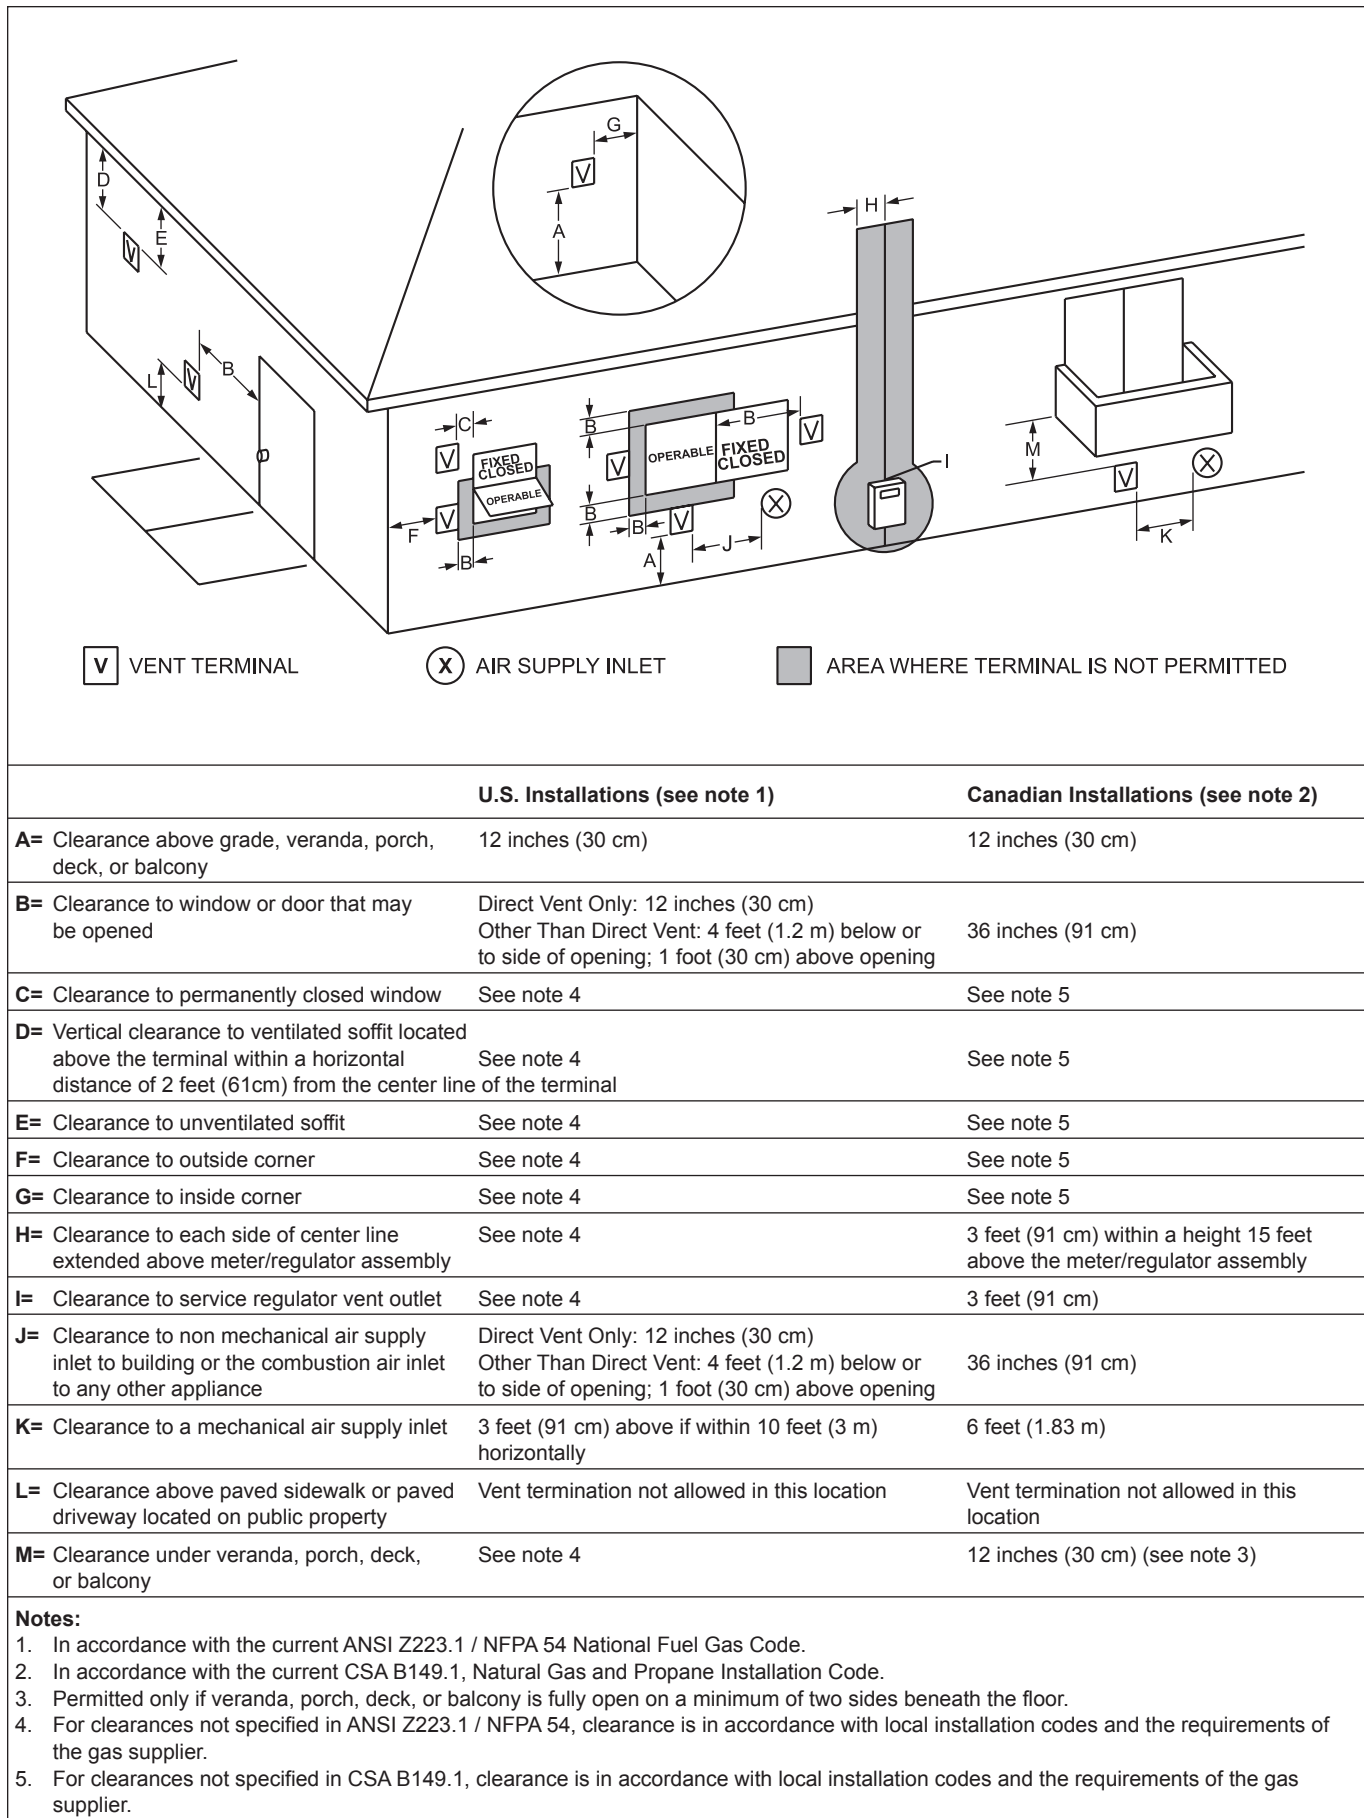

Figure 3. Vent Terminal Clearances.
1. **Figure 3** shows the requirements for mechanical vent terminal clearances for the U.S. and Canada.
4. If the Pennant is side-wall vented to the same wall, locate the vent terminal at least 3 feet (0.9m) horizontally from the combustion air terminal, and locate the vent terminal at least 1 foot (0.3m) above the combustion air terminal (see Figure 3).